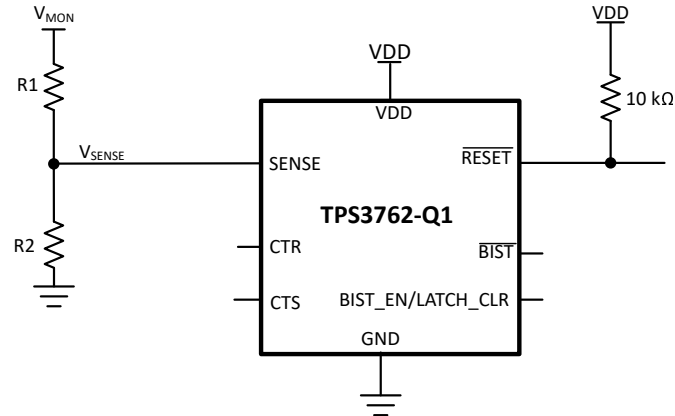

図 11-1. Adjustable Voltage Threshold with External Resistor Dividers
図 11-1 illustrates an example of how to adjust the voltage threshold with external resistor dividers. The resistors can be calculated depending on the desired voltage threshold and device part number. TI recommends using the adjustable (0.8V voltage threshold device) when setting adjustable voltage thresholds. This variant bypasses the internal resistor ladder.
For example, consider a 12V rail, V_{MON} , being monitored for overvoltage (OV) using of the TPS3762D02OVDDFRQ1 variant, as shown in 図 11-1. The monitored OV threshold, denoted as V_{MON+} , is the desired voltage where the device asserts the reset. For this example $V_{MON+} = 35V$. To assert an overvoltage reset the voltage at the sense pin, V_{SENSE} , needs to be equal to the input threshold positive, V_{ITP} . For this example variant $V_{SENSE} = V_{ITP} = 0.8V$. Using R_1 and R_2 the correlation between V_{MON+} and V_{SENSE} can be seen in 式 8. Assuming $R_2 = 10k\Omega$, and R_1 can be calculated as $R_1 = 427.5k\Omega$.